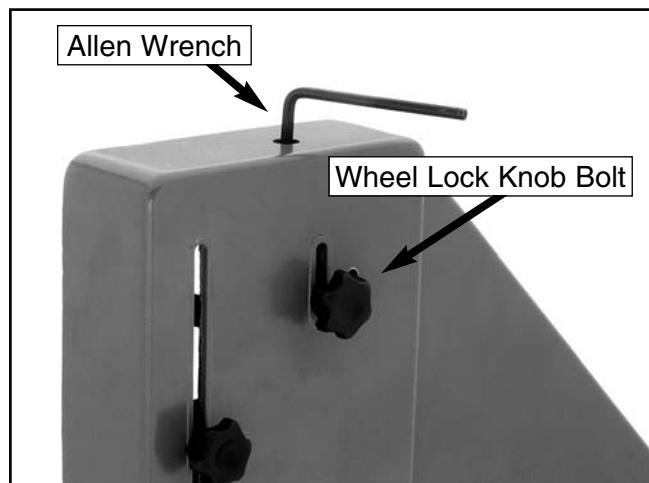

Figure 21. Blade tension components.
3. Loosen the wheel lock knob bolt on the back-side of the bandsaw (**Figure 21**).
5. Using a 5mm Allen wrench, release the tension one quarter of a counter-clockwise turn at a time (**Figure 21**). Do this very slowly. When you see the bandsaw blade start to flutter between the upper and lower blade guides, stop releasing the tension.